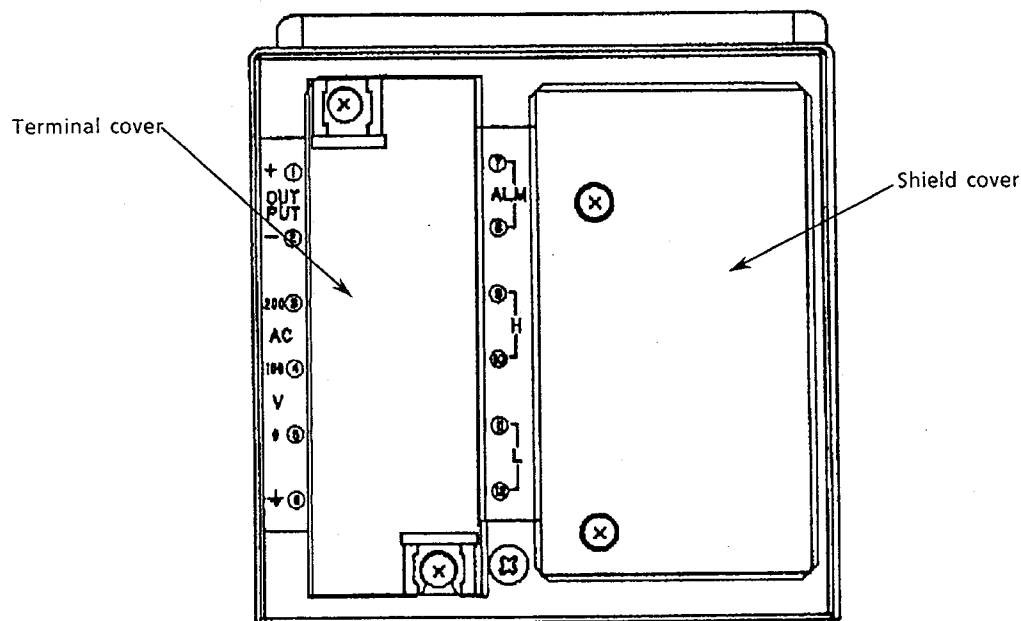

Figure 3.5 Shield Cover and Terminal Cover
- (1) Remove the terminal cover (see Figure 3.5) covering the power and output signal terminals. The terminal cover is mounted with two screws, so loosen these.
(2) Connect the cable to the terminals. End-treat the cable and properly connect the conductors to the corresponding terminals.
(3) Restore the terminal cover which was removed in step (1).